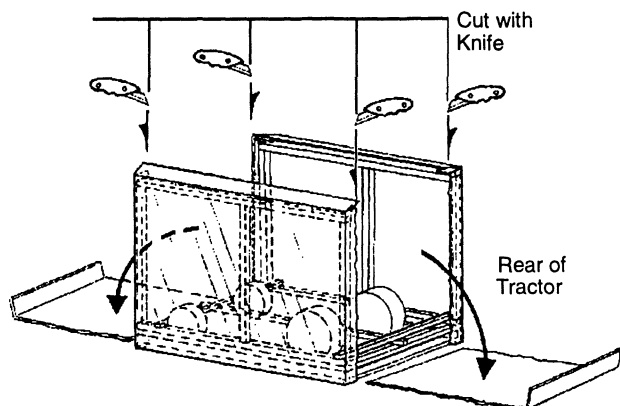

FIG. 1
- Fold cardboard down by cutting along dotted lines with a knife. (See Fig. 1) To avoid tire damage, cut as close to corners as possible.